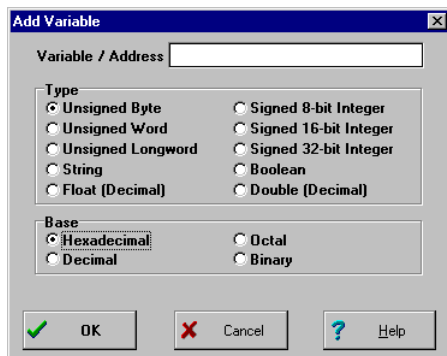

Figure 6-7. Add Variable Dialog
- **Add Variable:** Choose this option to open the *Add Variable* dialog (Figure 6-7) to add a variable or address to the current variable list. Select the variable type (size) and base.
specify the base in which variables are shown using the options in the *Add Variable* dialog (Figure 6-7). The default number format for the ICS05JPW is hexadecimal.